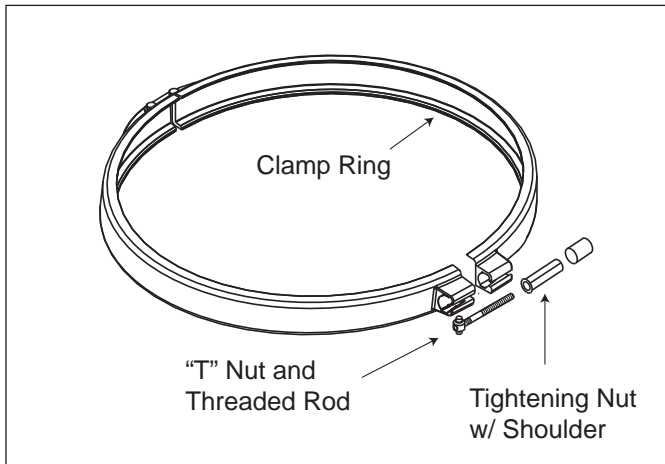

Figure 6. Filter Clamp Ring
3. Place the "T" nut and threaded rod assembly into the clamp. Be sure the "T" nut is seated in the clamp in the proper orientation. See Figure 6.